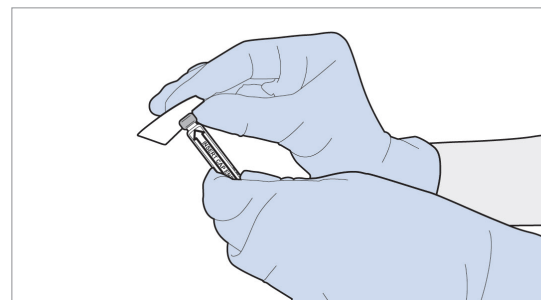

Figure 48 Alcohol Swab VOCERYQ Cartridge Septum
1. Clean the septum of the VOCERYQ Cartridge with an alcohol swab and allow to dry for at least 30 seconds. (see Figure 48).